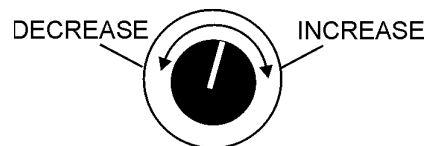

Figure 23. Voltage Regulator Knob
3. Turn the voltage regulator knob (Figure 23) clockwise to increase voltage output, turn counterclockwise to decrease voltage output. Use voltage regulator adjustment knob whenever fine tuning of the output voltage is required